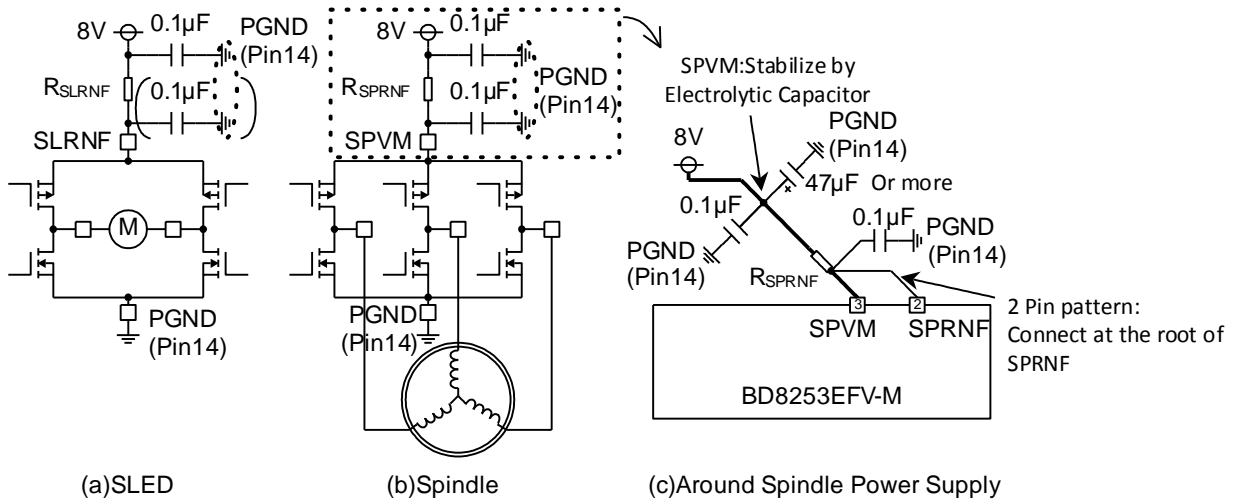

Figure 37. Position of Ceramic Capacitor
(2) Provide a low ESR electrolytic capacitor between the power terminal and the ground terminal of the driver to achieve strong stabilization. Provide a ceramic capacitor with good high frequency property next to the IC. Also provide a ceramic capacitor with good high frequency property between SPRNF and GND. (Figure 37)